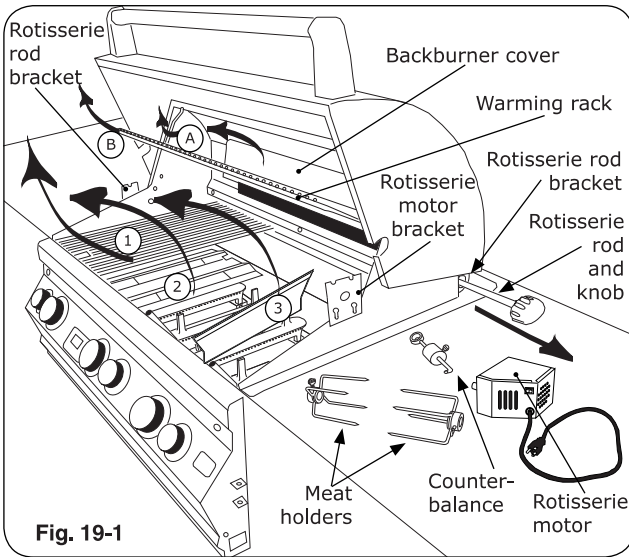

Fig. 19-1
3. Remove rotisserie rod from rear bracket (Fig. 19-1) attach knob if necessary.